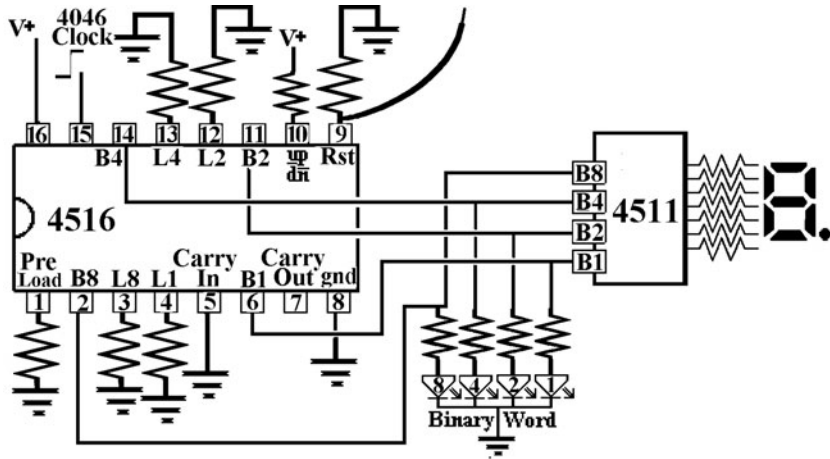

Figure L45-5
- **The reset.** Use a wire probe and momentarily touch the reset input to voltage as shown in Figure L45-5.